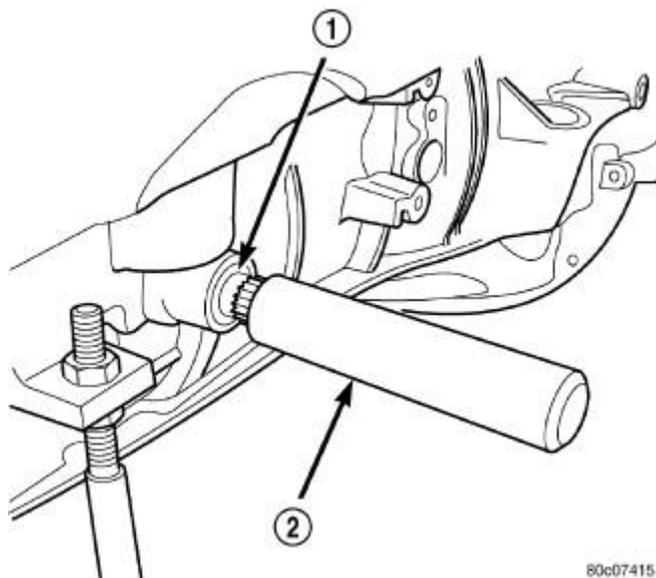

Fig. 61: Installing New Selector Shaft Seal
1. Install a new selector shaft seal (1) using Seal Installer (special tool #8253, Installer, Seal) (2). Refer to **Fig. 61**.